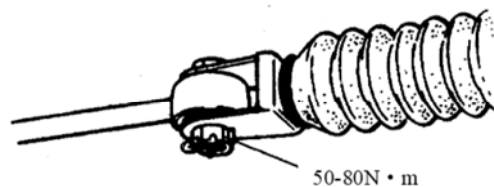

Fig.3.6-9
- 5) Connect the steering longitudinal pull rod to the steering boom and screw the groove type nut within specified torque range. Please refer to Fig.3.6-9.